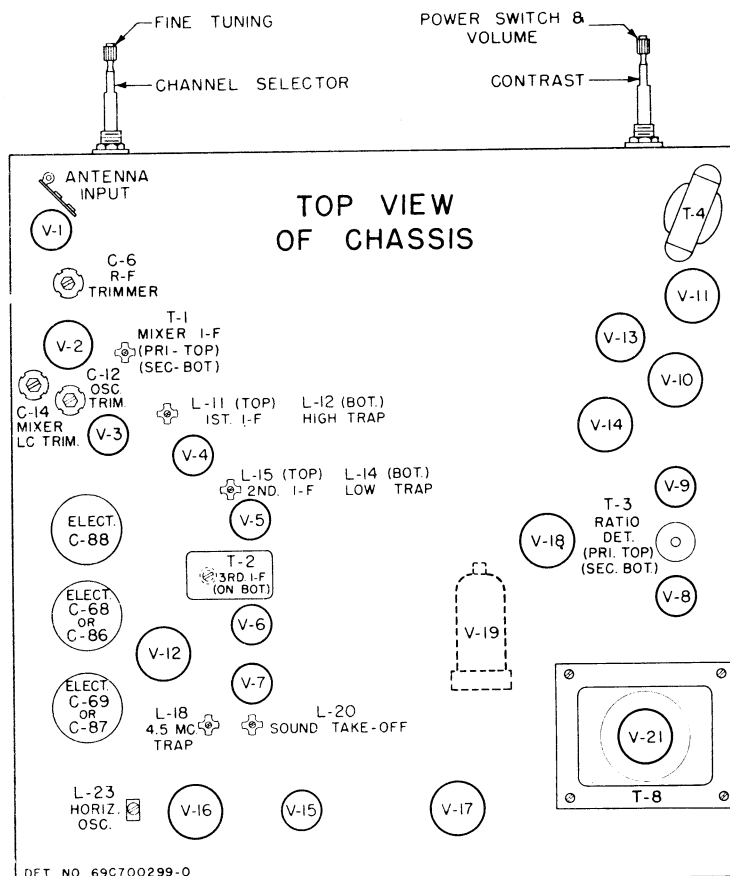

FIGURE 4. TUBE AND ALIGNMENT ADJUSTMENT LOCATIONS
Refer to Figure 4 for location of adjustments.
5. Refer to Figure 4 for the RF trimmer location and